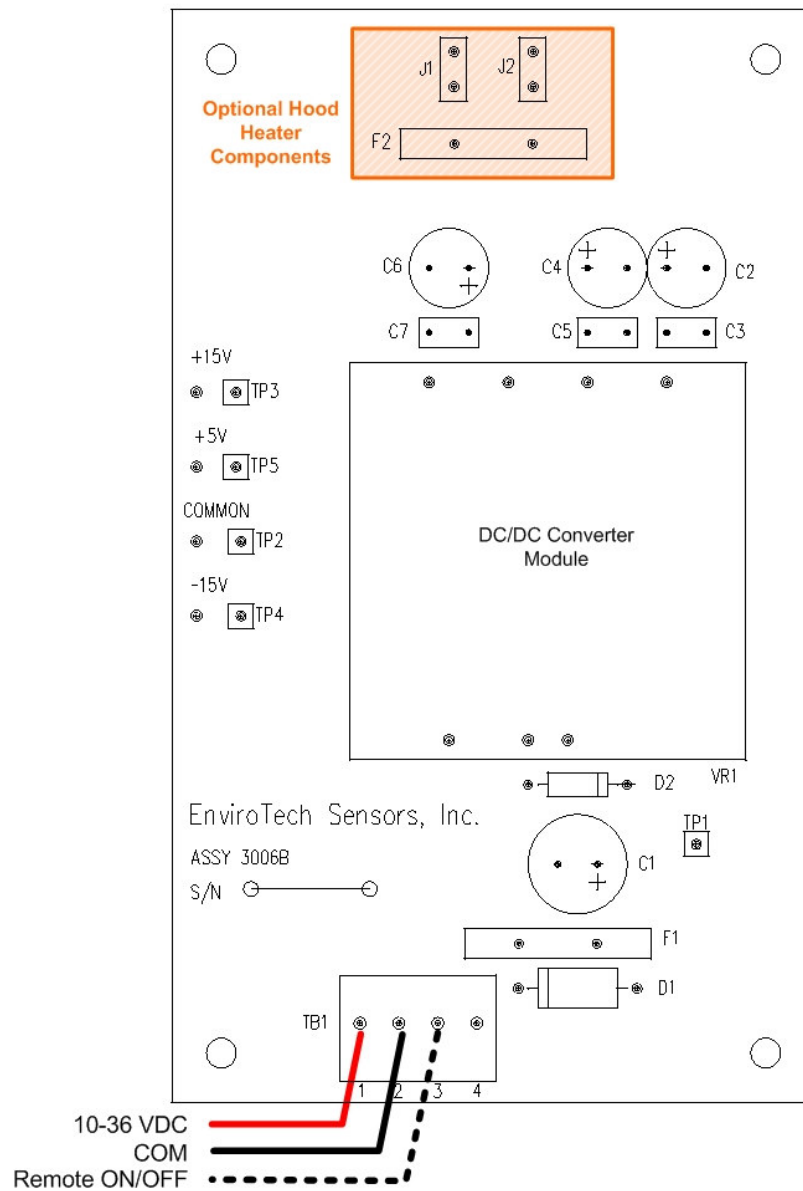

Figure 2.4.2-1 User DC Power Wiring
4. Strip ~6 mm (1/4") of insulation from each of the conductors and connect them to TB1 of the P/N 30006 DC Power PCB Assy as shown per Table 2.4.2-1 and in Figure 2.4.2-1.